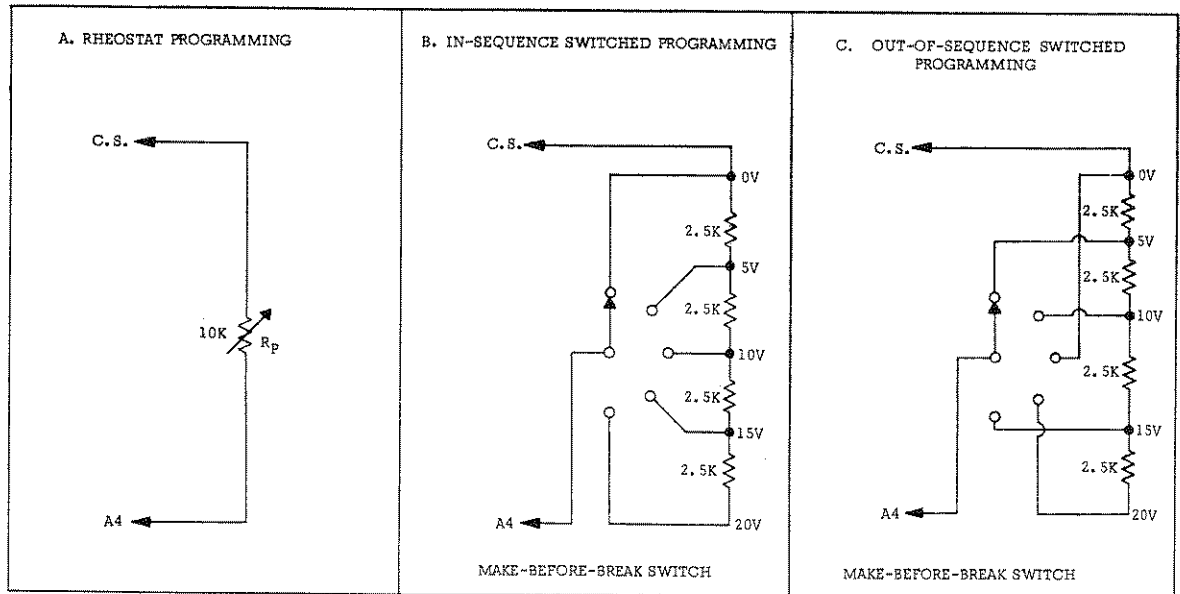

Figure 3-10. Switched Resistor Substitutes
3-45 If it is desired to achieve accurate programming reproducibility, or if it is necessary to repeatedly set the power supply output to specific voltage values, either of the substitute arrangements suggested by Figure 3-10(B) and 3-10(C) may be employed in place of the rheostat  $R_p$ . Suppose, for example, it is decided to set the power supply over the span from 0-20V. If continuous adjustment is required, the best choice would be a 10K rheostat (since the programming coefficient is 500 ohms/volt). But if specific tests must be made at 0, 5, 10, 15, and 20V, the arrangement shown in Figure 3-10(B) should be employed, using a make-before-break switch. If the same voltage values are desired, but not in ascending or descending sequence, the terminals from the resistor string can be connected to the switch in any desired sequence, as suggested by Figure 3-10(C).